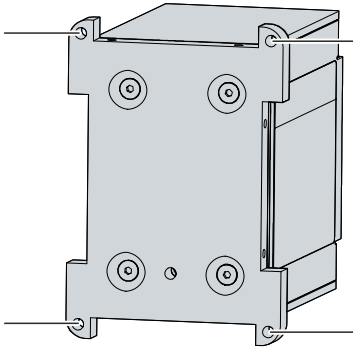

Fig. 10: C9900-U332\_mounting plate
1. Place the battery pack with the marked locations of the mounting plate (see Fig. 10) in front of the prepared drill holes.